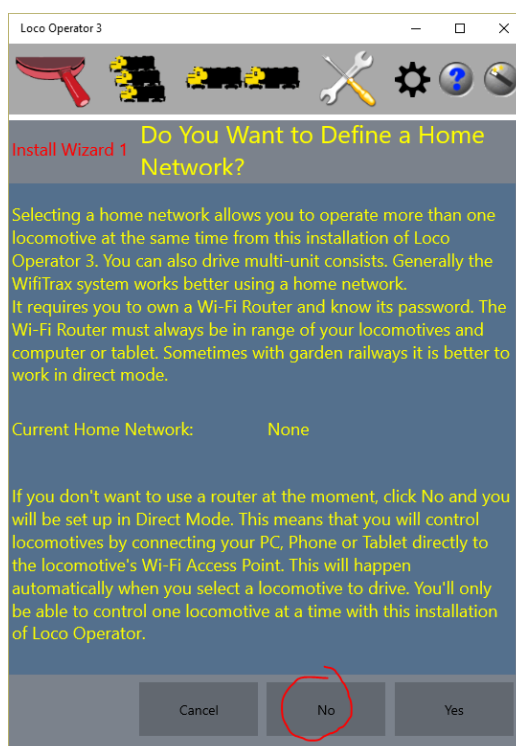

Figure 40 Install Wizard Page 1
- (1) Power up your WFD-30 module and NCE system with a locomotive on the track with a known DCC address.
- (2) Start the Loco Operator App on your computer, tablet or phone. If you are starting the app for the first time the Install Wizard will automatically run and you will see a screen called Install Wizard 1 as in Figure 40. This screen asks whether you want to define a Home Network. Click No to this option for now. You can come back to this screen later.